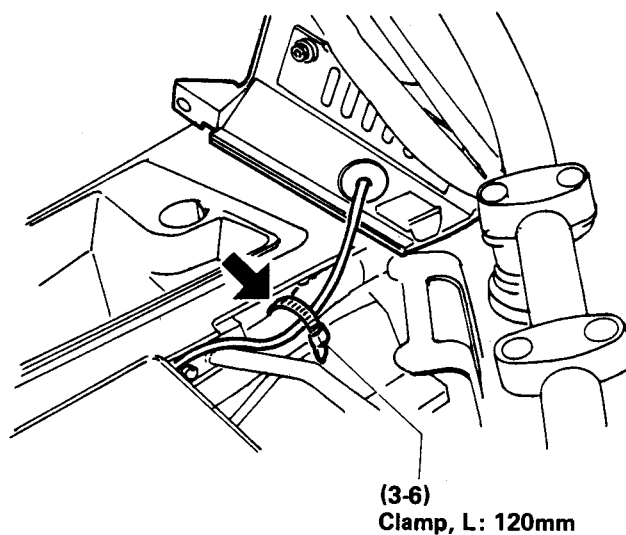

Fig. 21-2
- 5) Clamp at the location shown in Fig. 21-2.